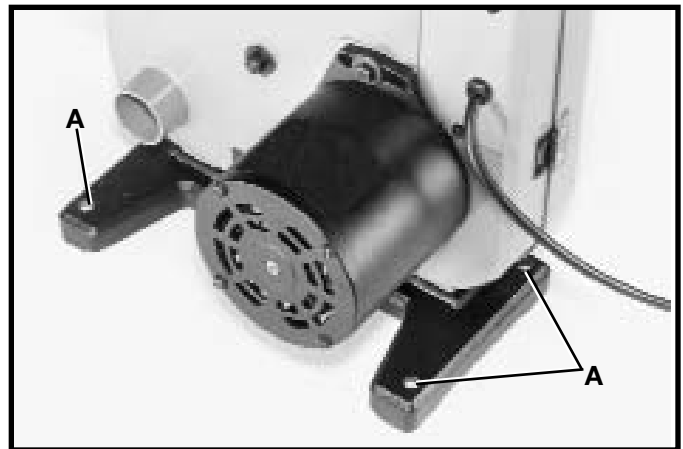

Fig. 14
**⚠ WARNING** The machine must be secured to a supporting surface. Four holes are provided in the band saw base for this purpose, three of which are shown at (A) Fig. 14.